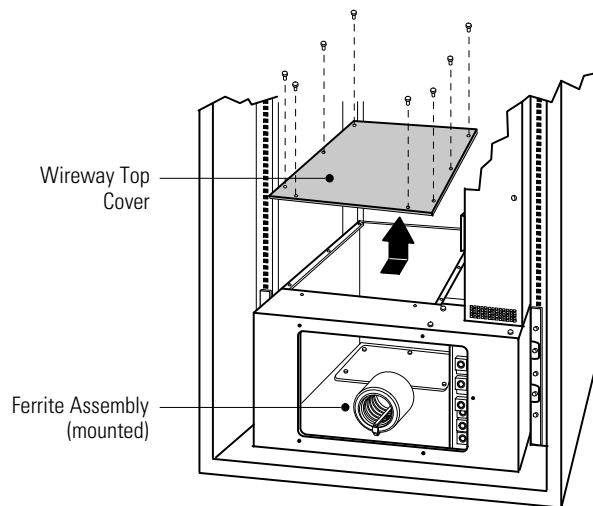
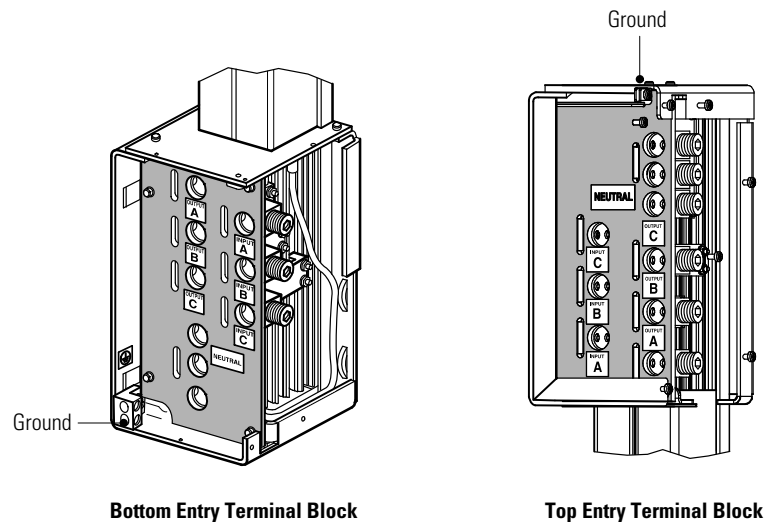

Figure 32. Removing the Wireway Top Cover
Figure 34. BladeUPS Bar Terminal Block
2. **Bottom Entry Wiring only.** Remove the eight screws on the wireway top cover and retain. Slide the cover back and off the wireway and retain. See Figure 32.
5. Connect the input, output, and ground wires to the BladeUPS Bar terminal block according to Figure 34 and Table 6. Route the three input phases and the input neutral through the mounted or loosened ferrite assembly (see Figure 32).